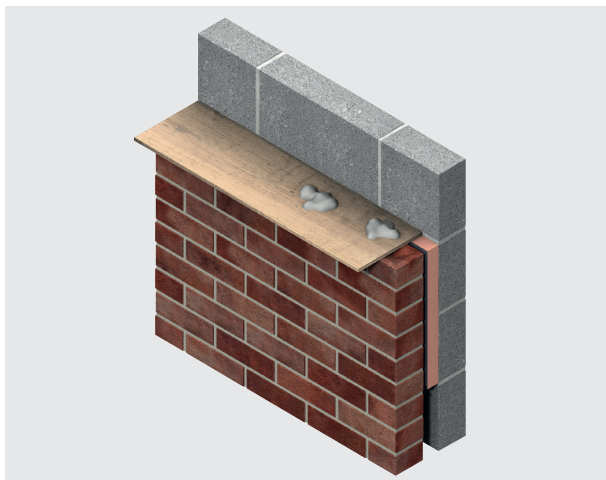

Figure 8: Use of a cavity board to protect the cavity and insulation board top edge
- Use of a cavity batten or cavity board is recommended to protect board edges and maintain a clear cavity (see Figures 8 & 9) or refer to BBA Certificate 16/5299.